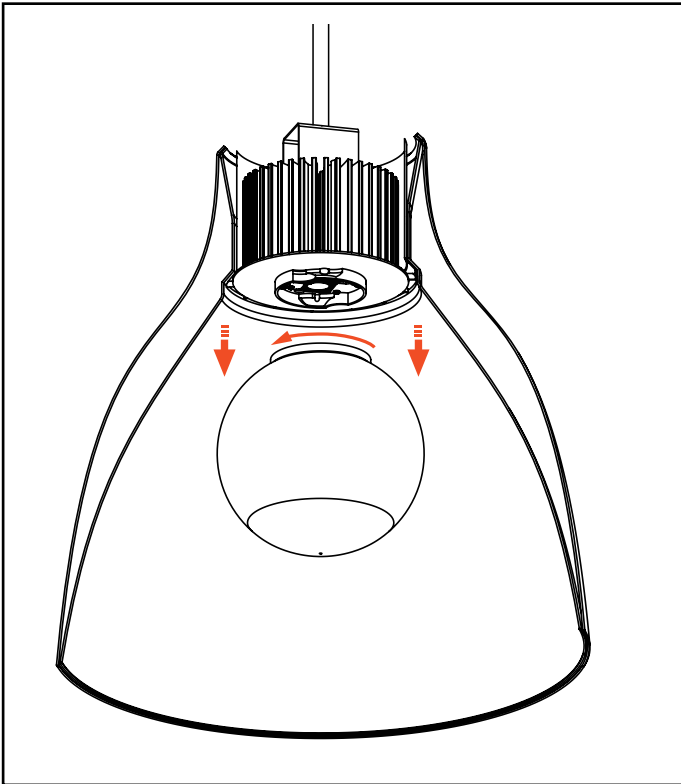

Figure 17
2. Take out the optics Globe / Lens from below by twisting counter clockwise and unlock from the light engine. May need to hold the top of the light engine assembly or shroud while removing. (Figure 17)